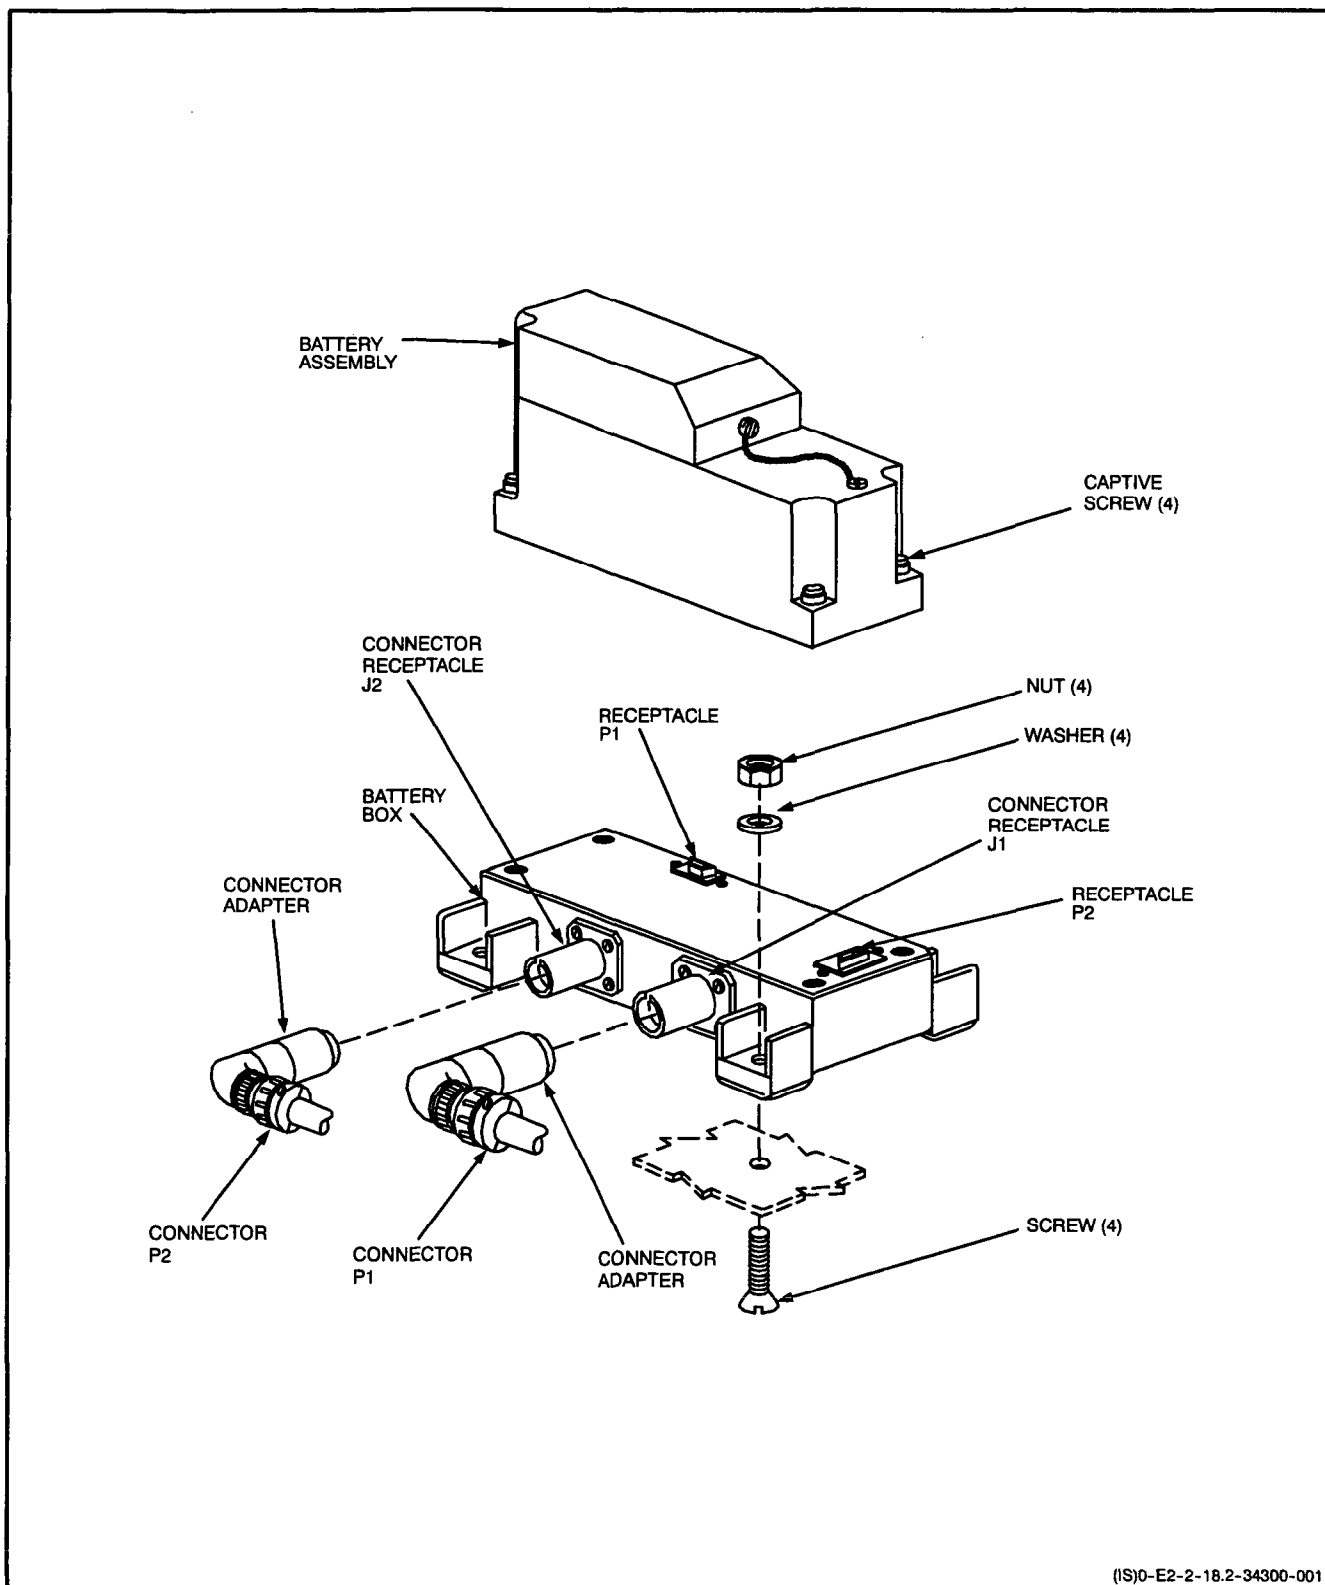

Figure 1. Removal and Installation of JTIDS Rechargeable Battery BB-721/URC-107(V) in Equipment Compartment
**3. REMOVAL.** (Figure 1.)
**4. INSTALLATION.** (Figure 1.)**Support Equipment Required**